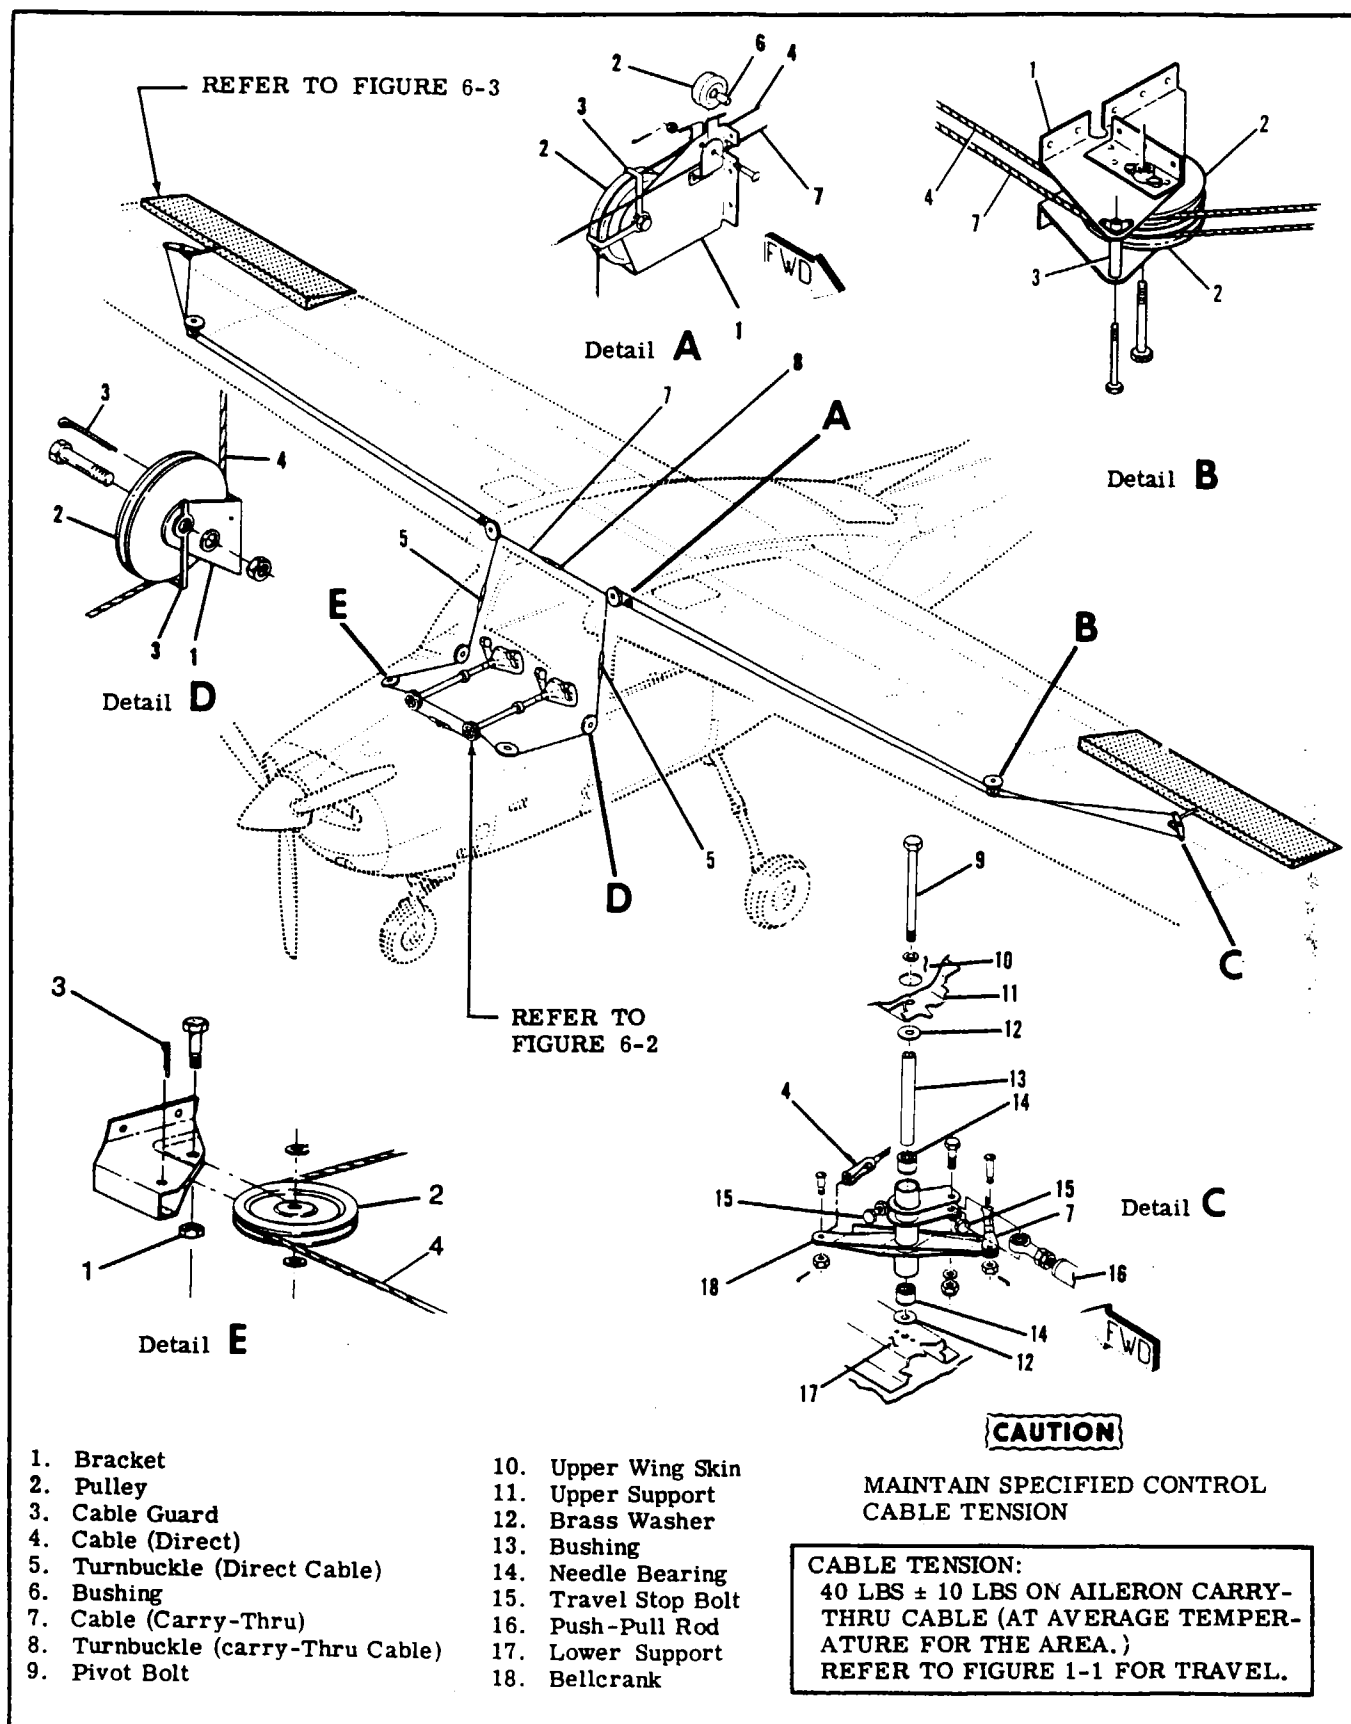

Figure 6-1. Aileron Control System
6-1. AILERON CONTROL SYSTEM. (Refer to figure 6-1.)
- Remove safety-wire and relieve direct cable tension at turnbuckles (5), figure 6-1.
- Remove safety-wire, relieve interconnect cable tension at turnbuckle (37) and remove cables from quadrant (32).
- Remove safety-wire and remove roll pin (30) through quadrant (32) and control tube assembly (17).
- Remove pin, nut (34) and washer from control tube assembly (17) at bearing block (33) on forward side of firewall (36).
- Using care, pull control tube assembly (17) aft and remove quadrant (31).
6-9. **AILERON BELLCRANK.** (Refer to figure 6-1.)
6-19. **CABLES AND PULLEYS.** (Refer to figure 6-1.)